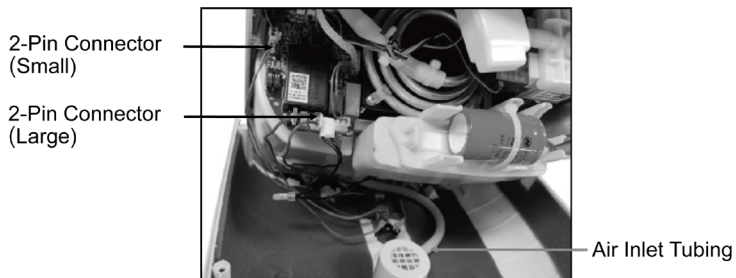

Figure 13 (rear housing)
- ▶ Open the cover, pull out the air inlet tubing, disconnect the large and small 2-pin connectors then remove the rear cover. ( Figure 13)